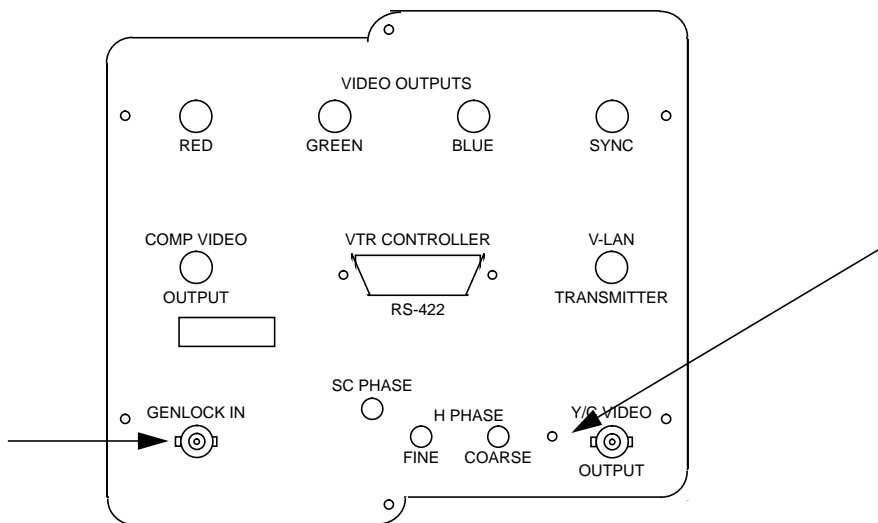

Figure 5 Detaching the IC card from the VideoCreator panel
5. Unscrew the BNC locknut for the **GENLOCK IN** port and the screw between the **FINE** horizontal phase adjustment screw and the **Y/C VIDEO** port to disconnect the IC card from the panel, as shown in Figure 5.